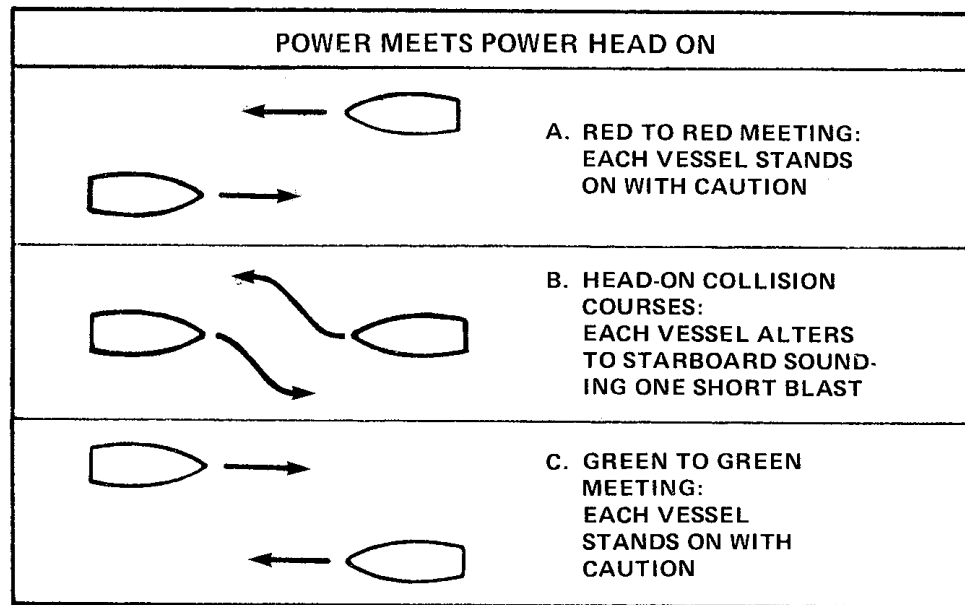

Figure 7-40 Power Meets Power Head-On
- (1) Figure 7-40(a) illustrates boats in a meeting situation involving **no risk of collision**. If **each stands on with caution** no trouble will develop. Here we have an obvious red-to-red meeting, where each leaves the other on her port hand and there is no need for course alteration or signals.
- (2) Figure 7-40(b) shows two boats on **head-on collision courses**. This calls for action: **each alters to starboard**, as shown in the diagram. The alteration in course should be decisive and readily apparent to the other boat even to the extent of exaggerated alteration. If equipped with sound, and within sight of each other, each boat gives one short blast meaning, "I am altering my course to starboard". If **under 26 feet** the boat **is not required to signal**, but she must so manoeuvre as to prevent any misunderstanding.
- (3) Figure 7-40(c) illustrates a meeting situation where, **if each stands on, no risk is involved**. A **green-to-green** meeting results, each having the other on her starboard hand and each showing the other her green light. If either alters course to starboard she cuts across the other's bow and a serious situation immediately results.